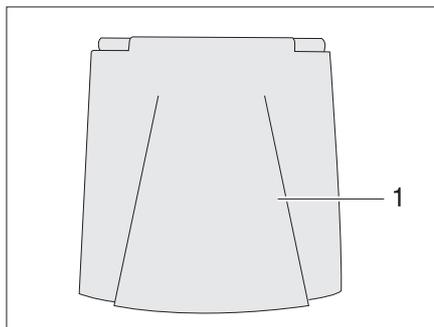

Fig. 34 External flap 240 V connection
- Swivel the external flap (Fig. 34,1) upward.
- Swivel the external flap (Fig. 34,1) downward and press it shut.